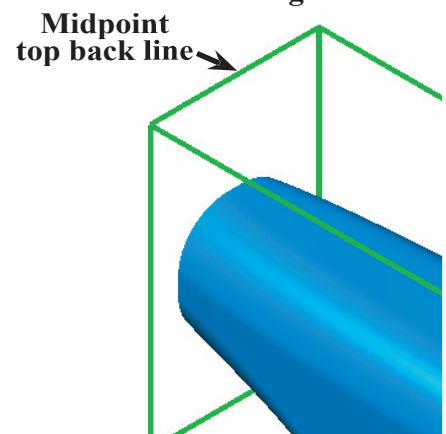

Fig. 33
Step 4. Click the **top back line**, **Fig. 33**.